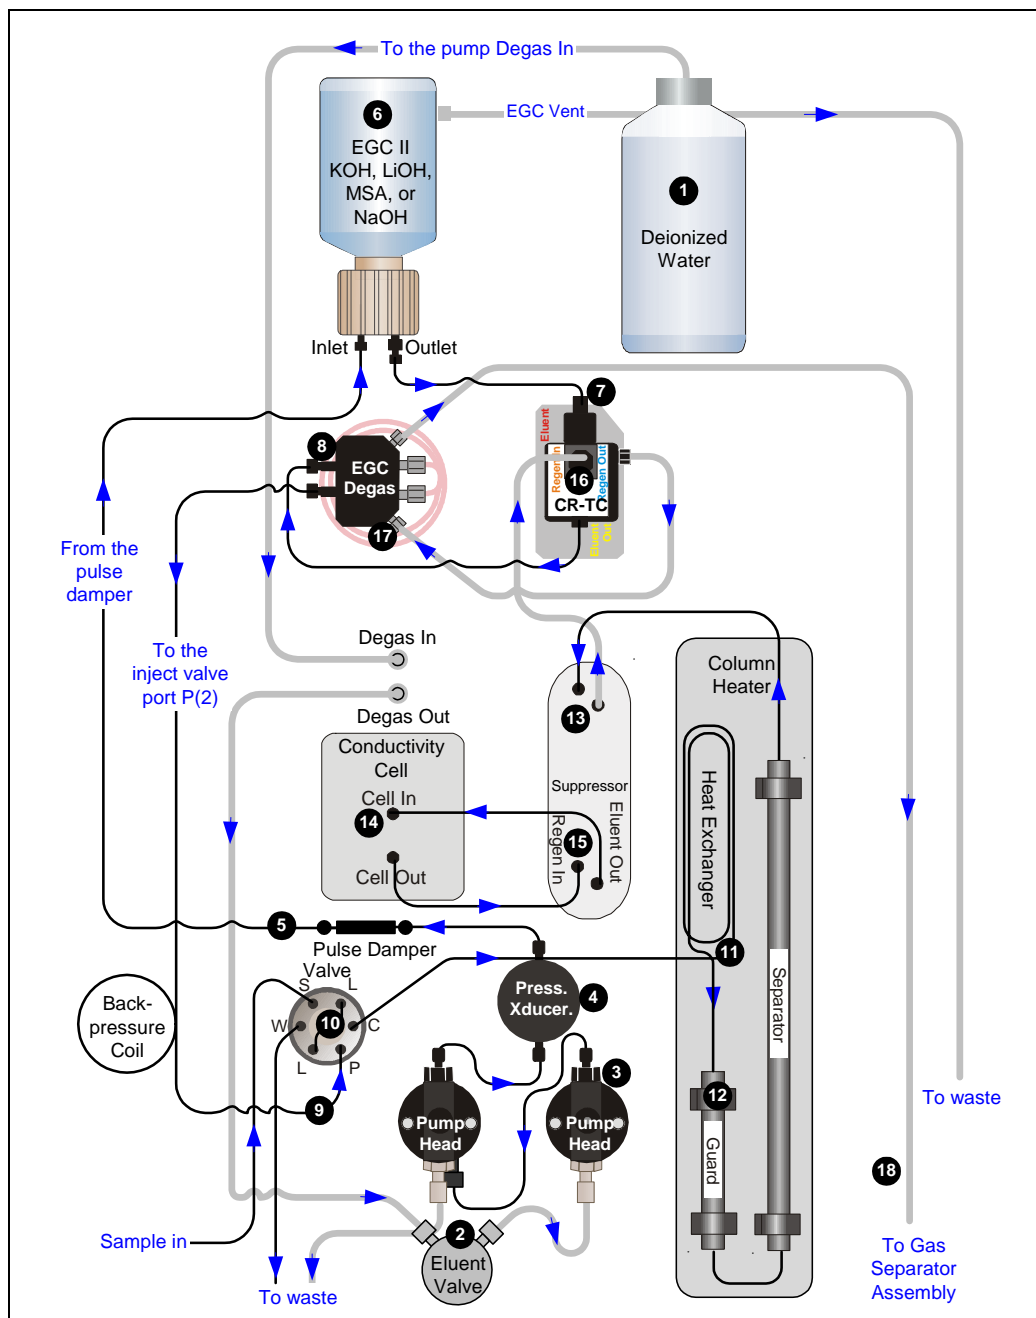

Figure 2-13. ICS-2000 Flow Schematic: KOH, LiOH, MSA, or NaOH Eluent Generation
- Figure 2-13 illustrates the liquid flow path when the components required for producing KOH, LiOH, MSA, or NaOH eluent are installed. The required components include the corresponding type of EluGen cartridge and a CR-TC.
Refer to Figure 2-13 for the flow path number locations.